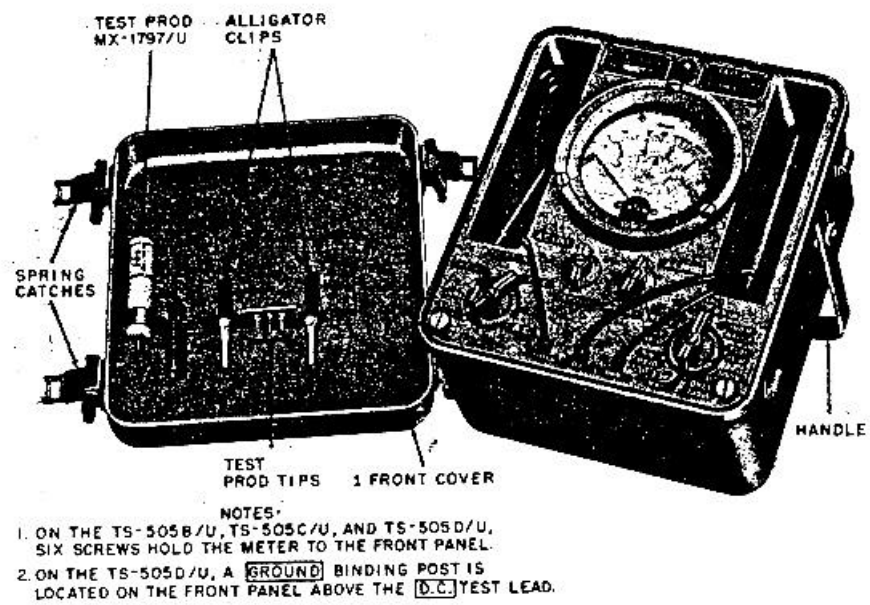

Figure 1. Electronic Multimeter TS-505A/U or TS-505B/U, or Multimeter TS-505C/U or TS-505/U, less running spares
a. This manual Electronic Multimeters TS-505A/U and TS-505B/U, and Multimeters TS-505C/U and TS-505D/U (fig. 1) and covers installation, operation, and first and second echelon maintenance. It includes instructions for operation under usual and unusual conditions, cleaning and inspection of the equipment, and replacement of parts available to first and second echelon maintenance personnel.